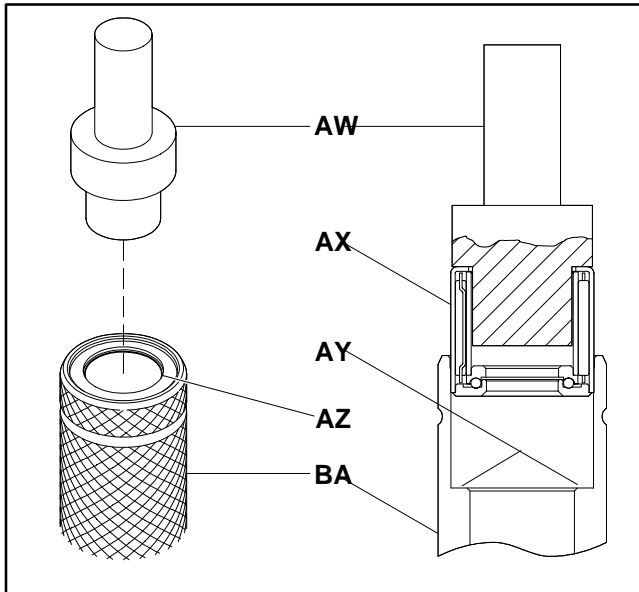

Figure 32
Use the following procedure to install pulley bearings (AX of Figure 32).
2. Install the bearing insertion tool (AW of Figure 32), part number ☆25-10 in an arbor press or drill press. Then, align bearing insertion tool (AW) with pulley bore (AZ).
3. Slide bearing (AX) onto the bearing insertion tool (AW).